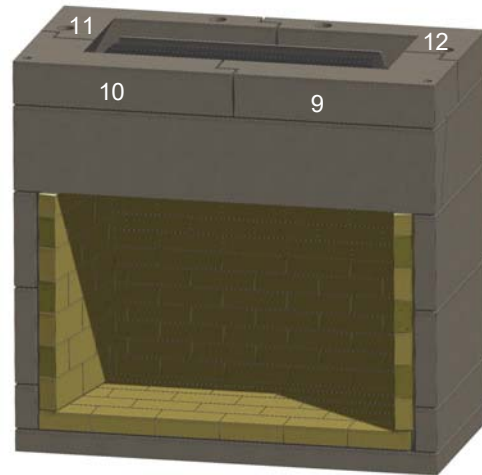

Figure 14. Lower Throat Level
I. Install the first complete ring of four interlocking throat components (items 9, 10, 11 and 12). Check with a level. See Figure 14.